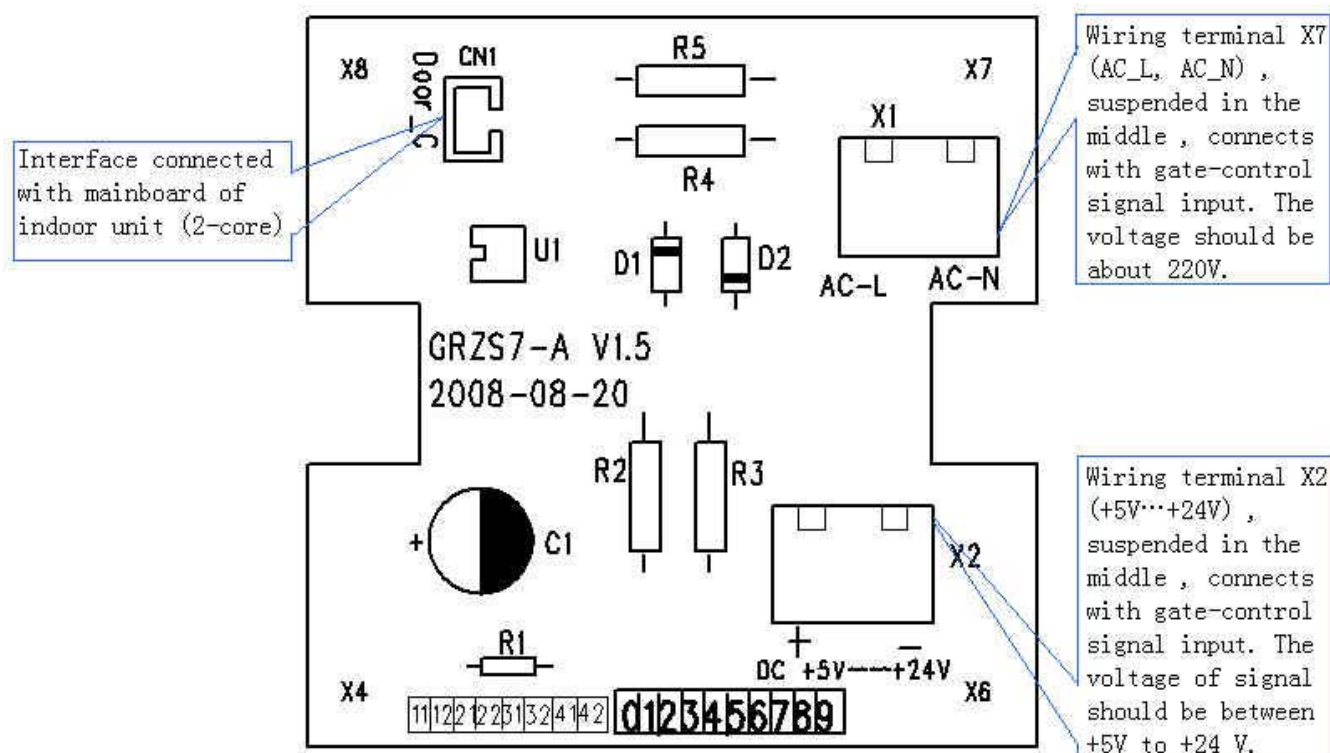

Fig2: Detection Control Board Interface Sketch
8.3 Detection Control Board Interface Sketch is shown in Fig.2: